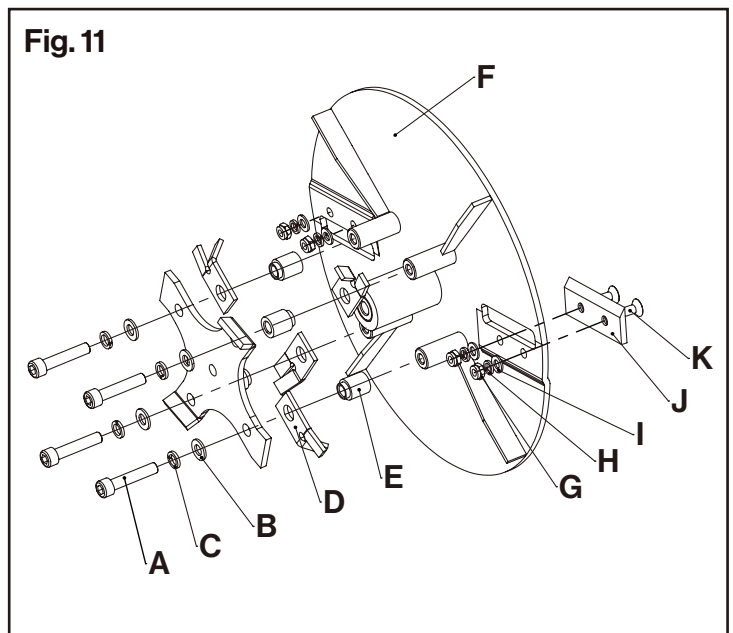

Fig. 11
4. Note the assembly sequence of the hardware used to secure the hammers. Using an allen wrench remove the socket head cap screw (A) and related hardware. **(Fig.11)**
5. Inspect the hammers (D), spacer tubes (E), and hardware. If the spacer tube (E) shows signs of wear, replace it. Inspect and flip, or replace the hammers (D).
- Torque the socket head cap screws (A) back tightly